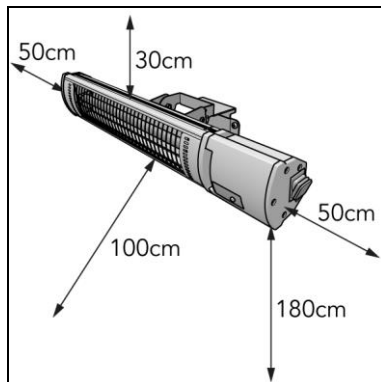

Figure 8
2. Place the device with a minimum distance (Figure 8) of: